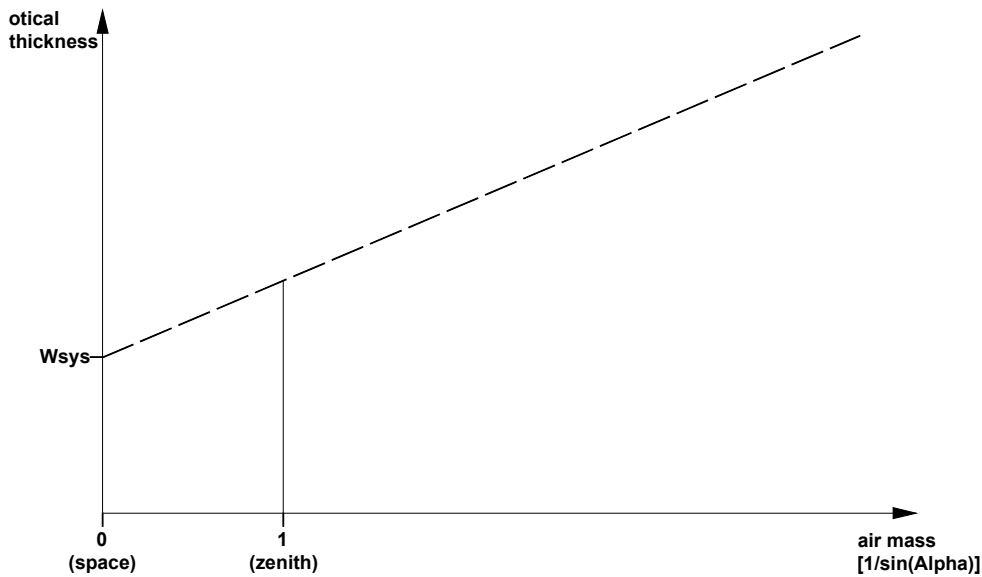

Fig.4.9: Extrapolation of tipping response to 2.7 K free space temperature.
The optical thickness as a function of air mass is a straight line (see Fig.4.9) which can be extrapolated to zero air mass. The detector reading U_{sys} at this point corresponds to a radiometric temperature which equals to the system noise temperature plus 2.7 K: $U_{sys} = G*(T_{sys} + 2.7 \text{ K})$. The proportionality factor (gain factor) G can be calculated when a second detector voltage is measured with the radiometer pointing to the ambient target with known radiometric temperature T_a . The sky tipping calibrates the system noise temperature and the gain factor for each frequency without using a liquid nitrogen cooled target.
- χ^2 -test. This measures the variance of the optical thickness samples relative to the straight line in Fig.4.9. Typical threshold values are <0.8 for a good quality calibration.